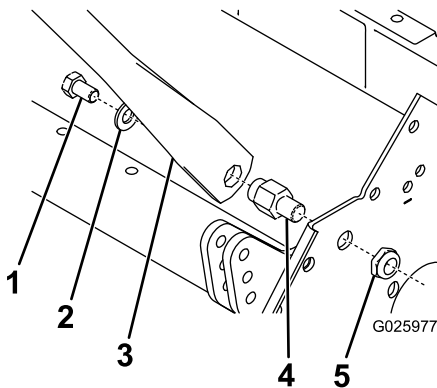

Figure 4
1. Install the new handle assembly to the machine using the previously removed bolt, washer, handle pivot pin, and flange-head nut (Figure 4).